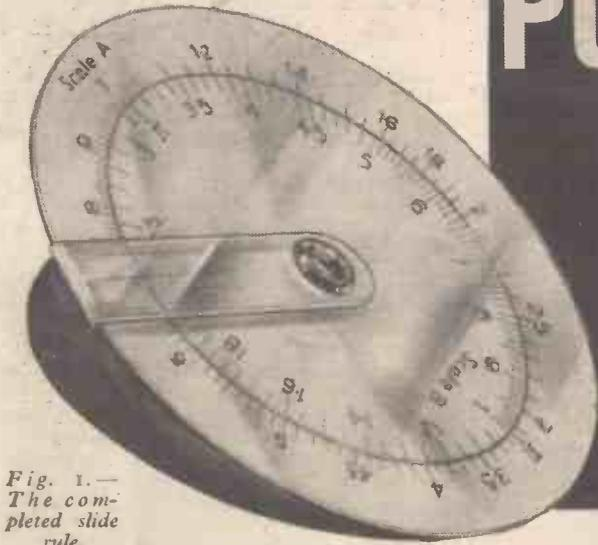
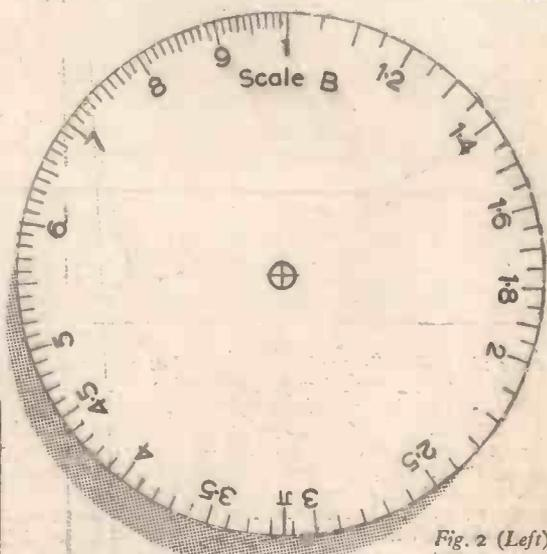
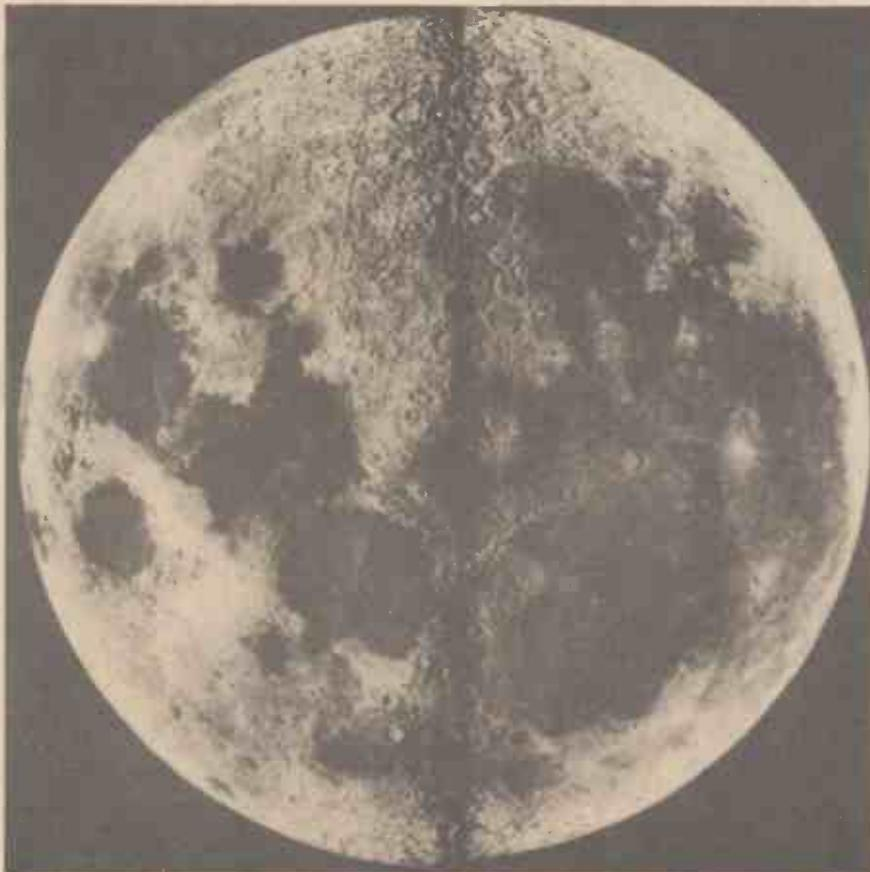

Fig. 1.—
Fig. 2 (Left).—
Fig. 1.—Composite photograph of the Moon (100in. telescope). Courtesy Mount Wilson and Palomar Observatories.
A CIRCULAR pocket slide rule that can be used for making rapid calculations is shown in Fig. 1. Two scales are set out in black ink on thin tough white card. The graduations can be transferred from Figs. 2 and 3 on to tracing paper and then pricked through on to the cards. The lengths and numbering of the graduations are shown full size in the figures. Alternatively the scales as printed on this page can be used directly by pasting them on to thin card and cutting out along the lines shown.
**L**ATELY the Moon has been very much in the news and telescopic views of her pock-marked face have become familiar to the general public. Rough and rugged it looks, especially where the long evening or morning shadows pick out the mountain detail. Fig. 1 shows the main features of the Moon, which can be identified by means of the map (Fig. 2).
Fig. 2.—Map of the Moon, showing main features. Key: 1, Ptolemaeus; 2, Clavius; 3, Bailly; 4, Copernicus; 5, Tycho; 6, Plato; 7, Theophilus; 8, Janssen; 9, Langrenus; 10, Grimaldi; 11, Alphonsus; 12, Petavius; 13, Endymion; 14, Maurolycus; 15, Gassendi; 16, Posidonius; 17, Newton; 18, Cleomedes; 19, Albategnius; 20, Archimedes.